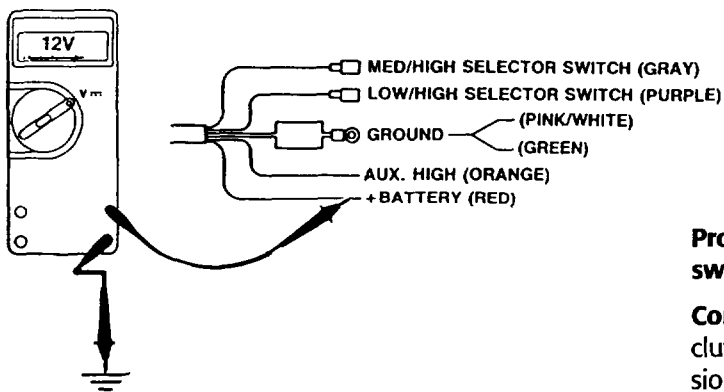

FIG. 2
**Correction:** Check that the connector between the vehicle power supply and the red line to the Jacobs® control module is tight and free of any corrosion or oil. With the vehicle ignition turned on, +12 VDC must be measured at the red wire (Fig. 2). If not, continue with checks.